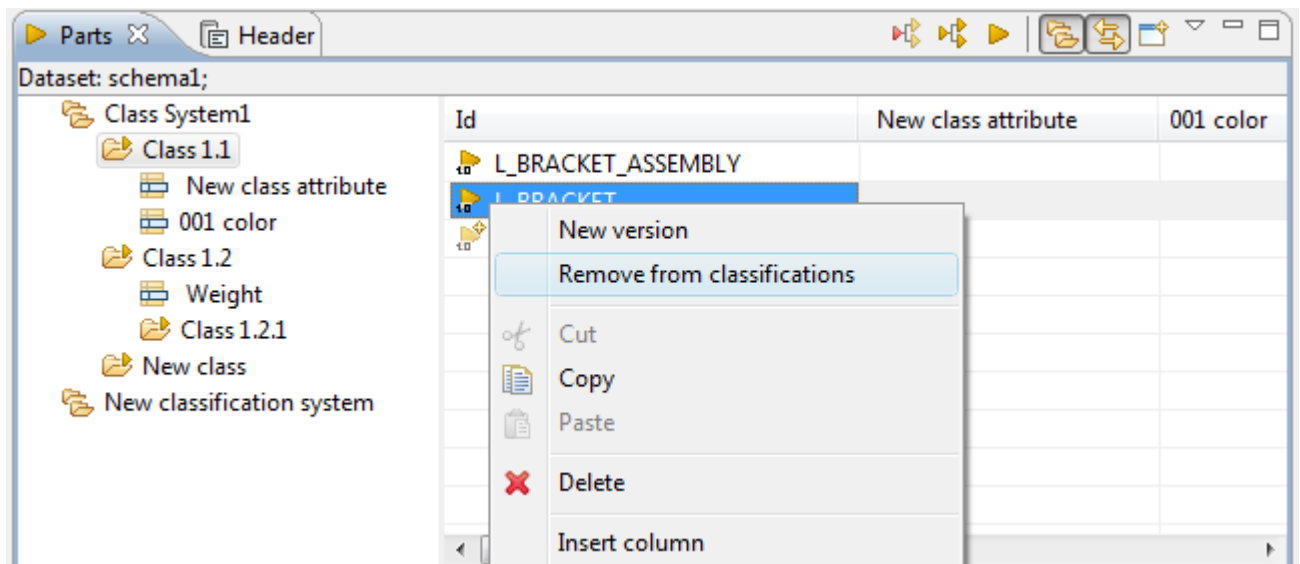

Figure 1. Remove from classification menu item (right). Highlighted classifications, the part is assigned to (left)
- Right click on the  part version to be removed. The context sensitive menu appears (see Figure 1).